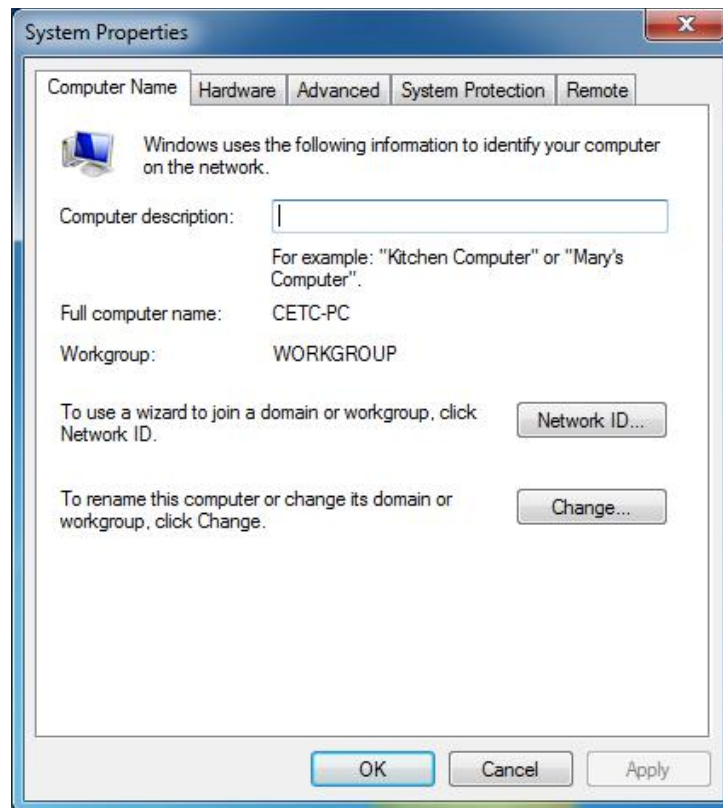

Fig. 3.10 Change host name
**Step 1.** Press Start menu, select Computer and right click Properties, click Change Settings at the right of Computer Name, Domain and Working Group and again click the Computer Name column to change. As shown in Fig. 3.10.